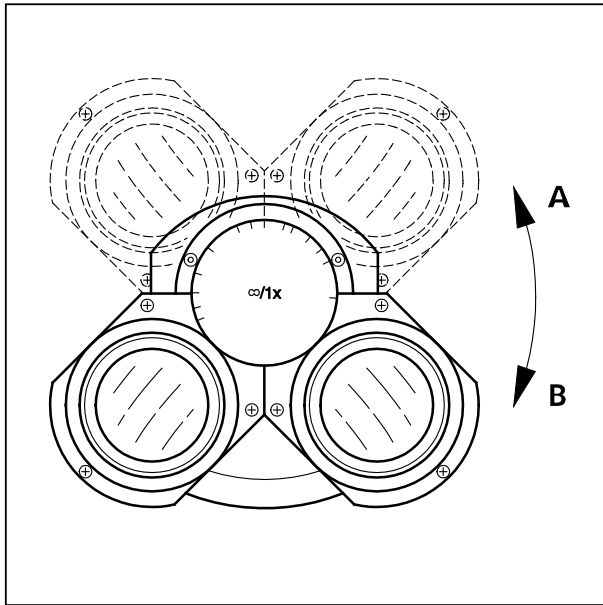

Fig. 73 Setting the interpupillary distance on the binocular tube
- The eyepieces are adjusted for the interpupillary distance by swiveling the two eyepiece sockets towards or away from each other (Fig. 73/A and B)